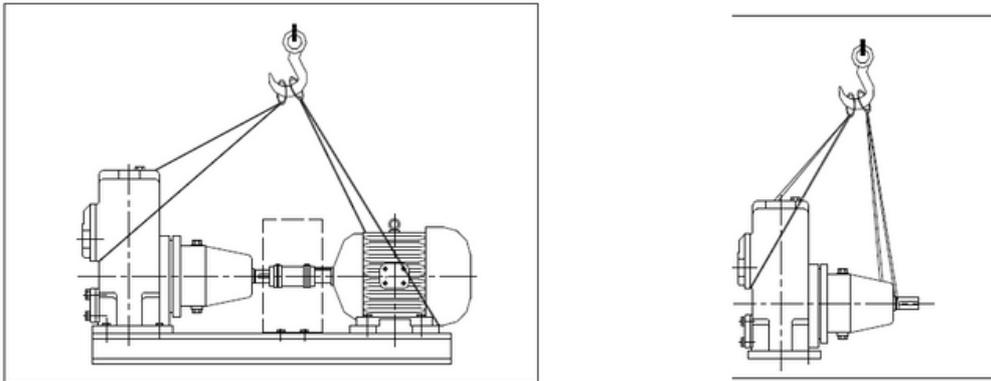

Figure 1 Lifting instruction pump set SM
If a pump or a complete pump unit has to be lifted, the slings should be fixed as shown in figure 1.
- Pump and motor shafts of complete sets are adjusted perfectly in line in the works. In case of permanent arrangements place the base plate on the foundation with the aid of shims and tighten the nuts on the foundation bolts carefully. Then check the alignment of pump and motor shafts and realign, if necessary according to the instruction in Figure 1.